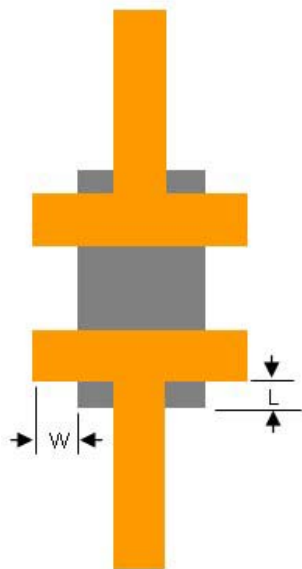
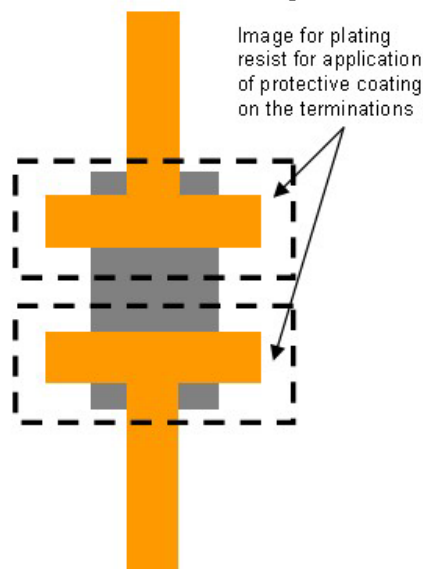
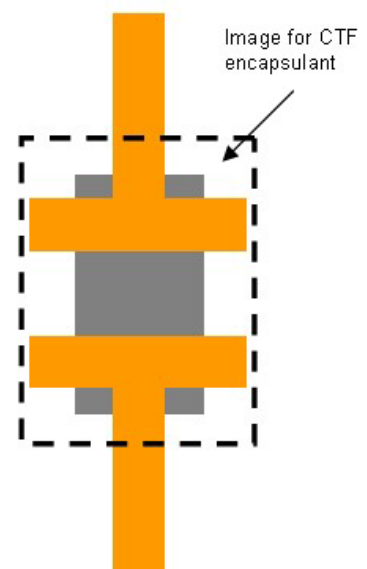

Figure 5 – Resistor Terminations
Figure 6 – Resistor Termination Coating
Figure 7 – CTF Resistor Encapsulant
Resistor terminations are the copper areas directly connected to the resistive material. For screen printed resistors, the termination must be designed larger than the resistor element to assure proper registration and manufacturability, see Figure 5. L and W for screen printed resistors should be 4 to 8 mils depending on the precision of the board manufacturers screening process. Some PTF screen printed resistors require that the copper be coated with an inert conductive barrier metal to prevent chemical reaction between the resistor material and the copper, see Figure 6. This feature should be 3 to 5 mils per side larger than the termination, depending on the precision of the board manufacturer. For CTF resistors, an encapsulant coating is required, see Figure 7. This image must be 5 to 7 mils per side larger than the resistor element. The design files must include these additional features for the manufacturer and the drawing must include the appropriate instructions.
For etched resistors, as shown in Figure 5, L will be zero, and W may be zero. See Figures 8, 9, and 10 for examples. A secondary etch pattern must be provided as shown in Figure 8. Length (L) is the calculated length of the resistor. Width (W) should be 3 to 4 mils. Be cautious with adjacent traces to prevent unintended removal of copper.